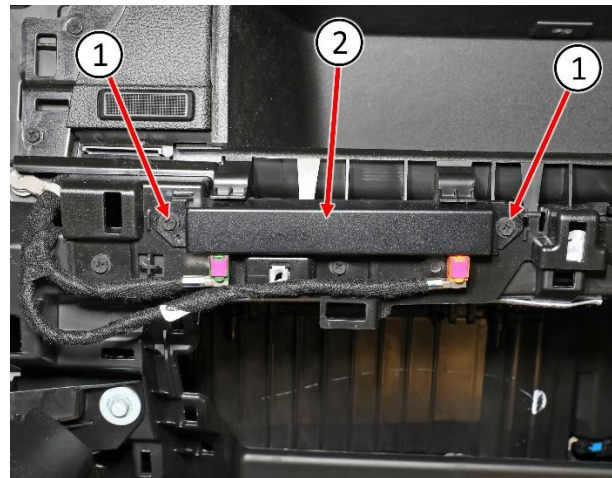

Figure 11 – Antenna
19. Remove the antenna to instrument panel fasteners (1) then position the antenna (2) aside (Figure 11).
42. Position the antenna onto the instrument panel then install and securely tighten the antenna to instrument panel fasteners (2) (Figure 11).